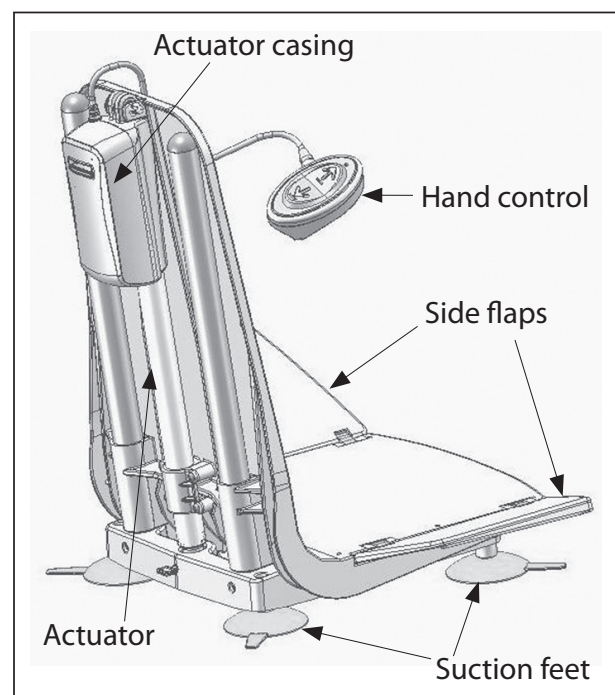

Figure 2
- Run water to any level under the actuator casing (**fig 2**).
- A battery **(see fig 2)**
- A battery charger with charging cradle attached **(see fig 2)**
- Slide the battery into the tracks on the charging cradle until it clicks into place **(see fig 2)**.
- The light indicator on the charger box will initially flash in a quick sequence of red, green, red, green, before a constant red light appears to indicate charging is in progress **(see fig 2)**.